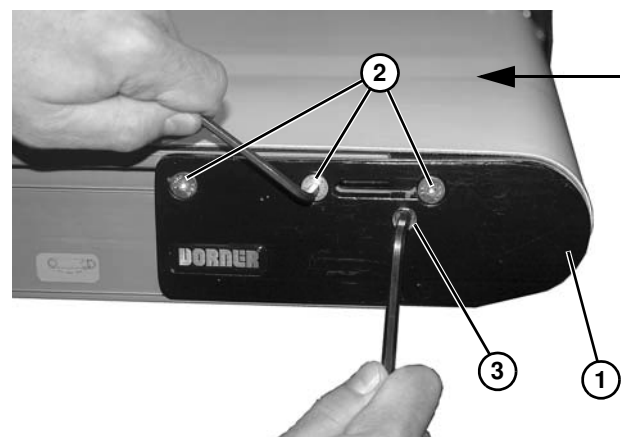

Figure 46
- b. On end drive of the conveyor, push in head plate assembly (**Figure 46, item 1**):
- On both sides of conveyor, loosen fastening screws (**Figure 46, item 2**).
- On both sides of conveyor, rotate cam tracking assemblies (**Figure 46, item 3**) to move head plate assembly inward.